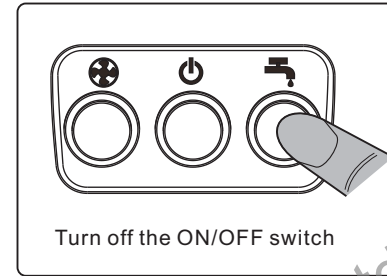

fig.11
- If the machine will be transported or stored when the environment temperature is less than 4°C, discharge all the solution water in the solution tank. After this, twist down the ball valve. Then press the sprinkling button to sprinkle all the water stayed in the sprinkling system (fig.11). Otherwise, water may freeze and damage the sprinkling motor, solenoid valve, and hoses because of lower water temperature.